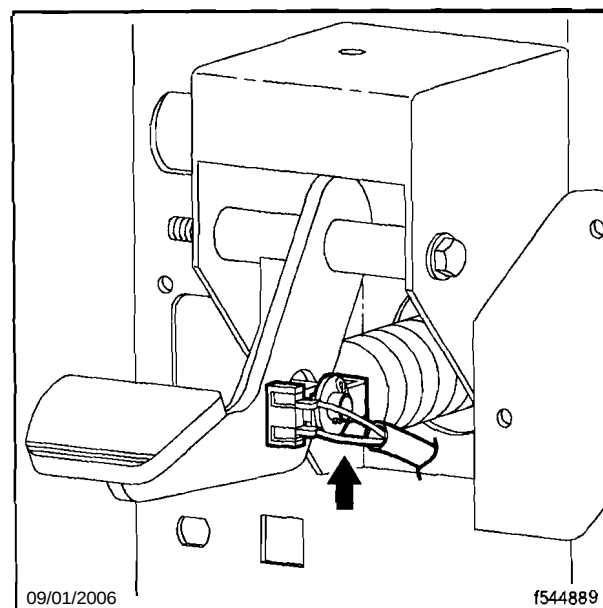

Fig. 1, Brake Light Switch and Harness
7. Install the new brake switch (06-59571-000) and attach the harness. See Fig. 1.